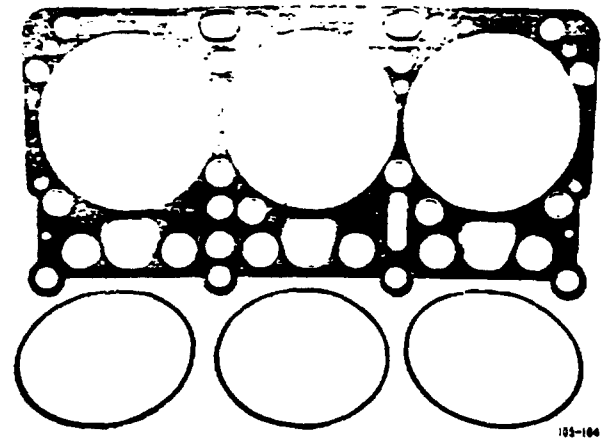
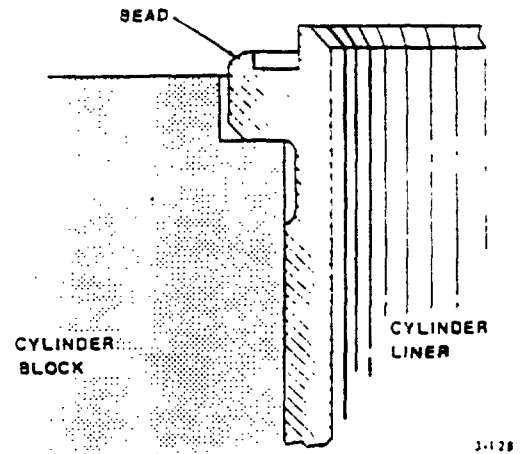

Figure 13. Maxidyne-Type Gasket (with Fire Rings)
Figure 14. Beaded-Type Cylinder Liner (4-7/8 In. Bore)
The "Maxidyne-Type" gasket (consisting of a one-piece composition gasket and three (3) fire rings as shown in Figure 13) must be used with the beaded-type liners as shown in Figures 14 and 15.